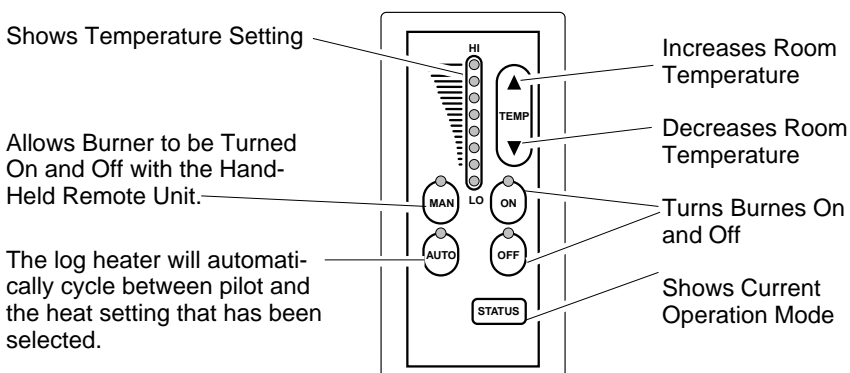

Figure 22 - Thermostat Hand-Held Remote Control Unit Selections
- 2b. Select the MAN (manual) or AUTO button on the hand-held remote control unit (see Figure 22, page 17).